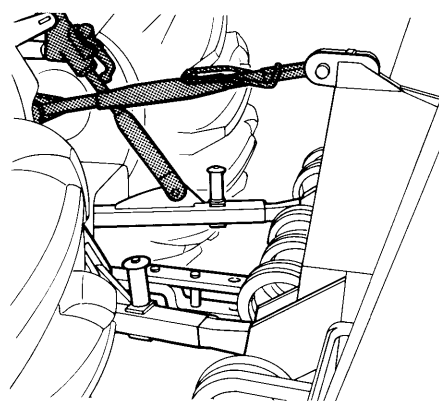

Figure 10
- 1/ Attach and level your Agrowplow laterally (side to side) using the screw adjustable linkage arm. (See figure 10)
- 3/ Set the fore - aft level to approximately correct using the adjustable top link. (See Figure 10) **Front and rear depth MUST be equal.**